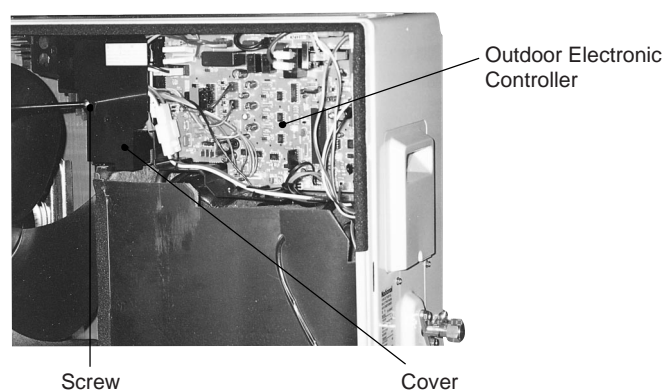

Fig. 17
1. Removal of the front panel of the outdoor unit allows access to the electronic control device. (Fig. 17)